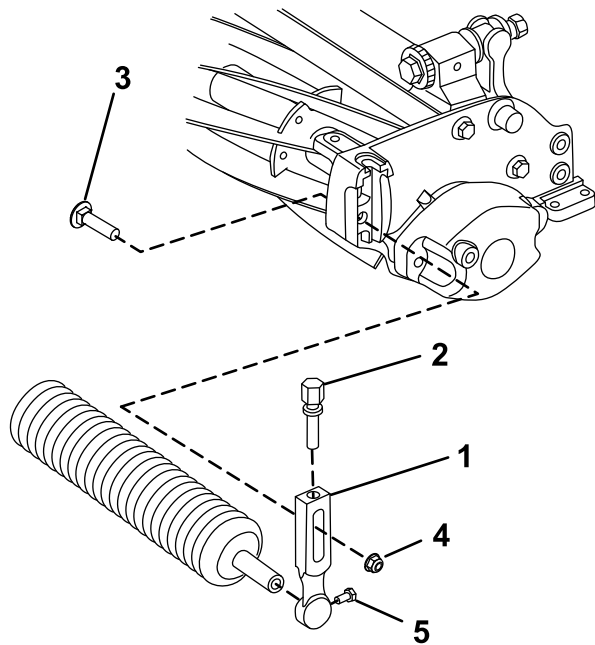

Figure 3
1. Remove the plow bolt and flange locknut securing one of the height-of-cut arms to the cutting unit side plate (Figure 3).
5. Loosely secure the roller to the cutting unit with the height-of-cut arm and fasteners previously removed (Figure 3).
7. Tighten the roller-mounting screws (Figure 3).
2. Loosen the roller-mounting screws in the height-of-cut arms (Figure 3).
3. Slide the roller shaft into the height-of-cut arm on the opposite end of the cutting unit (Figure 3).
4. Slide the height-of-cut arm onto the roller shaft (Figure 3).